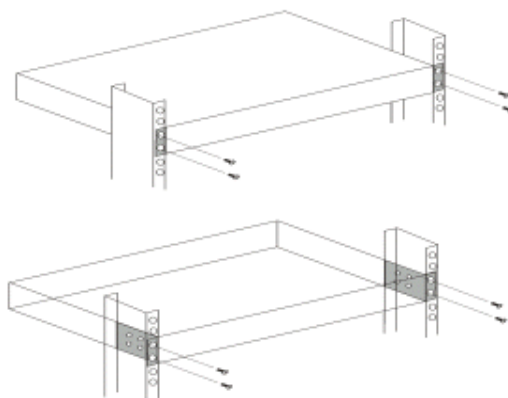

Figure 2-1. FOS-3128 Switch Rack-mounting
Step 2. Align the mounting holes in the brackets with the desired holes in the rack, and insert screws through each bracket and into the rack. (See Figure 2-1)